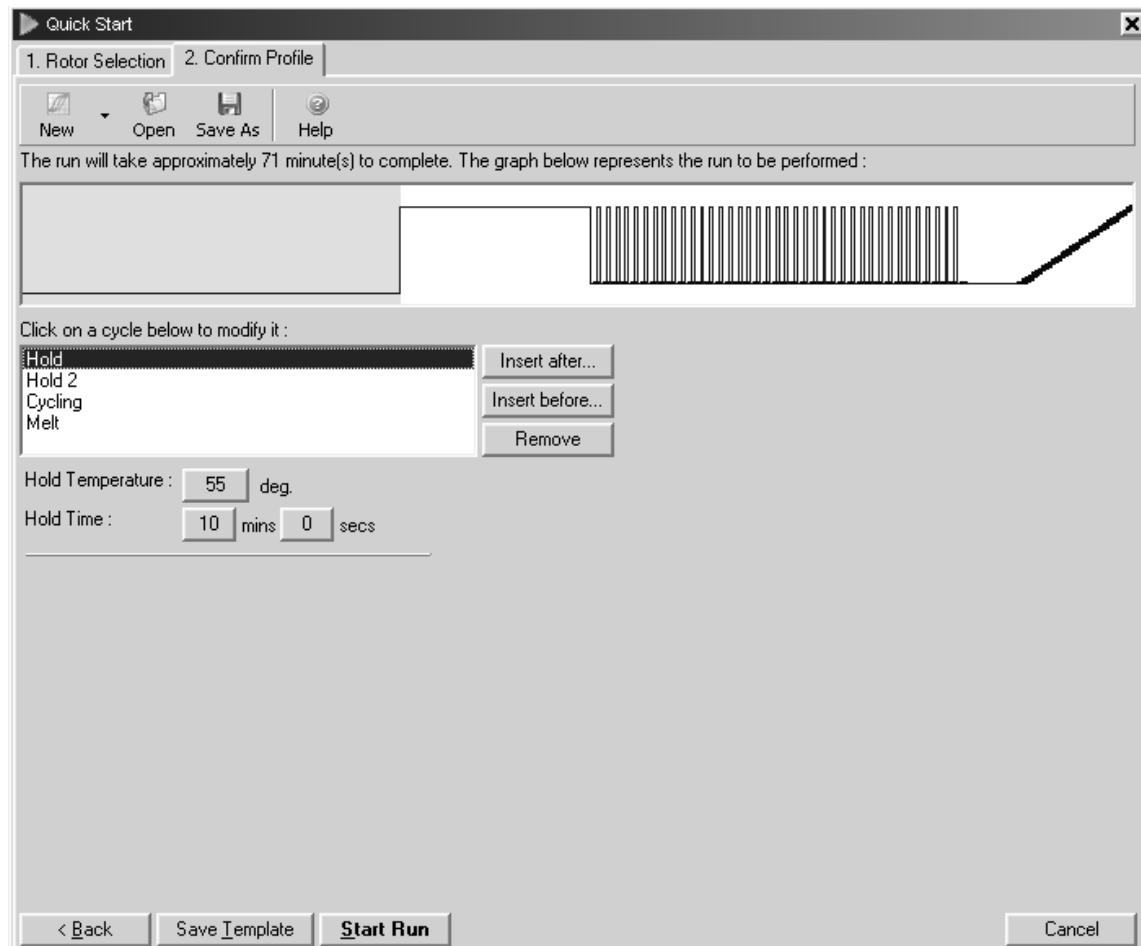

Figure 4. Reverse transcription. Before starting PCR, reverse transcription must be carried out. Reactions are incubated at 55°C for 10 min.
- 5. Program the Rotor-Gene cycler according to the program outlined in Table 4 (page 20) and Figures 4–6 (pages 21–23).**